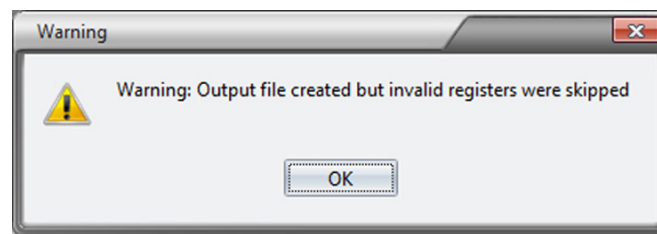

Figure 5.5—“Invalid registers” warning
- If the database includes registers that are not supported by the firmware selected, the following warning message (Figure 5.5) will be displayed, the invalid registers will appear red in the *Edit Registers* dialog and an Exceptions Log will be created and stored in the “Maps” folder. Click **OK** to proceed with saving the map and manual files.